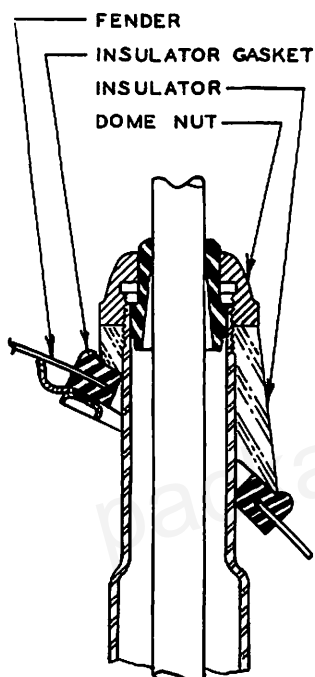

Figure 1
1. Tape paper template to left fender, locate and cut out  $1\frac{1}{4}$ " diameter hole for insulator gasket. Install gasket. See figure 1.
3. Assemble antenna lead-in cable to antenna assembly. Assemble mounting bracket loosely to antenna assembly. Remove dome nut from antenna assembly shown assembled in figure 1. Insert complete assembly under fender through insulator gasket. Assemble mounting bracket and ground wire to fender moulding stud with washers and nuts furnished in kit. See figure 3. Do not tighten. Assemble insulator and dome nut. Do not tighten. See figure 1.